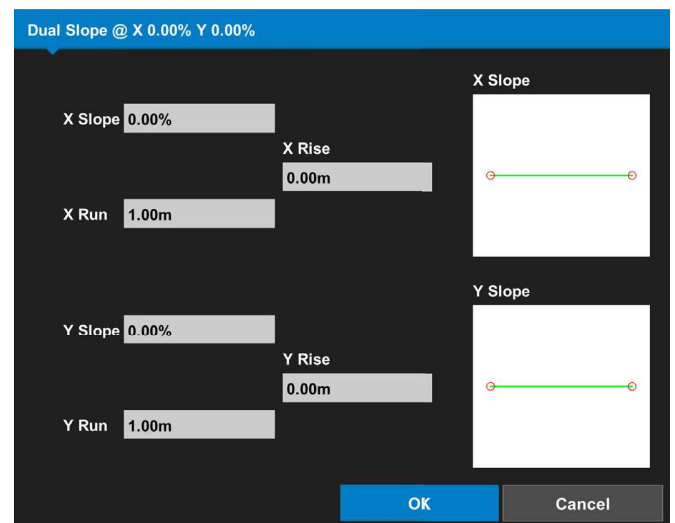

Figure 8-56: Known Dual Slope
2. Enter a percentage, or both the **Rise** and **Run** for each slope (Figure 8-56).